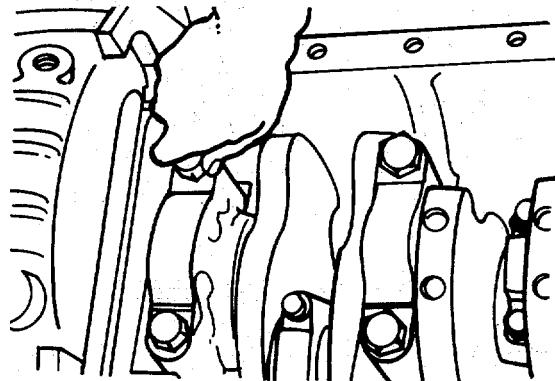

FIGURE 4-77. Check Crankshaft Rotation.
j. Check the bearing installation and the size of the bearings if the crankshaft does not rotate freely. (FIGURE 4-77)